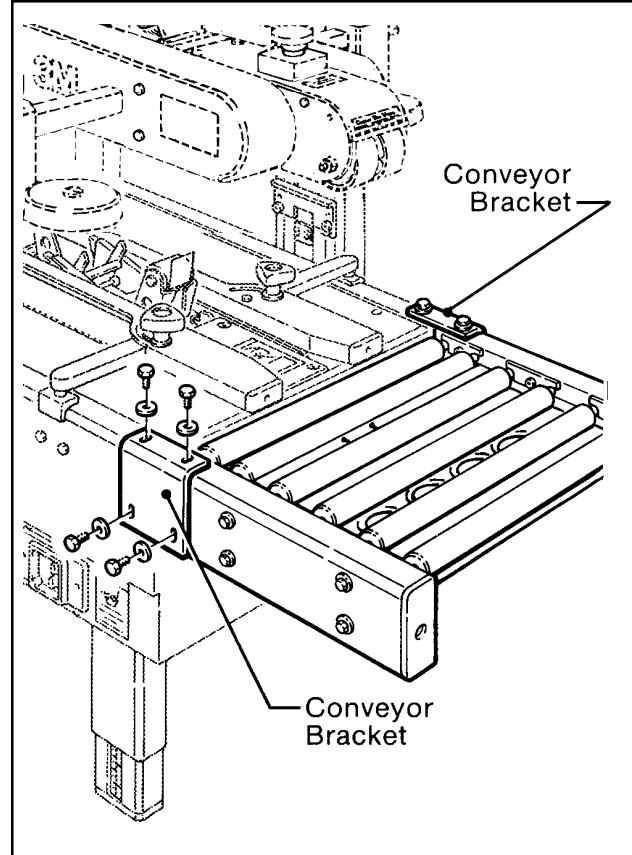

Figure 2 – Conveyor Bracket Installation
6. Refer to Figure 2. Set the conveyor bracket over the joint between the conveyor and the case sealer frame on each side and secure them with four M8 x 16 hex head screws and washers.